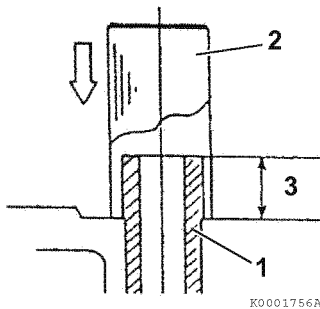

Figure 6-25
3. Finish installing the valve guides (Figure 6-25, (1)) to the proper height (Figure 6-25, (3)) using the valve guide installation tool (Figure 6-25, (2)). See valve guide projection specification on page 6-5.